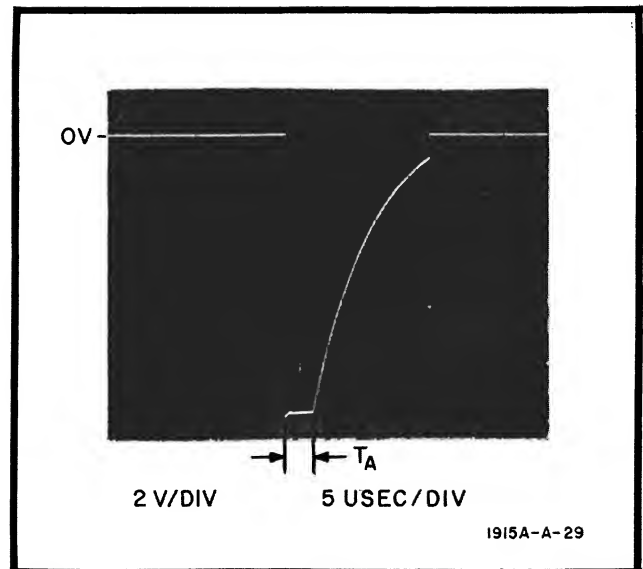

Figure 5-15. Negative Overload Test Pulse
q. Using monitor oscilloscope observe Model 1915A output. Output should be similar to that shown in Figure 5-15. T_A should be less than 5 usec.